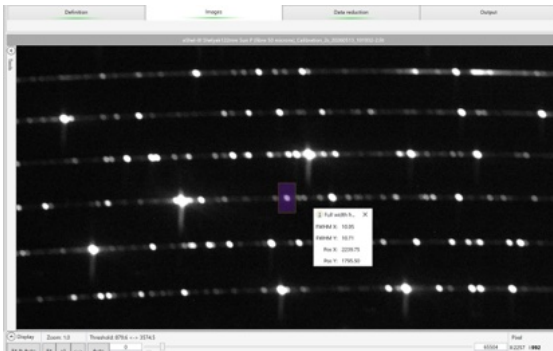

Figure 4.4: Zoom on a calibration spot, and FWHM (Demetra software)
The focal length (FL) length of the eShel III Collimator lens is 125mm, and the FL for the Objective lens is 122mm. Then there is almost no internal focal reducer ($122/125 \approx 1$) and the spot images must have a size close to the fiber diameter – 50 μm . With the 3.76 μm pixels of the CMOS sensor (IMX 571, ASI 2600MM-Pro), spot images must have a FWHM of $50 / 3.76 = 13$ pixels. In real life you can get around 10 pixels almost anywhere in the image. See fig. 4.4